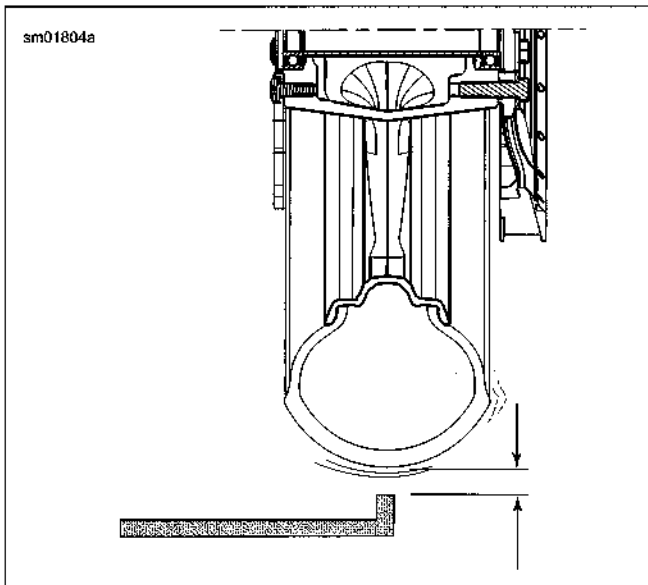

Figure 2-6. Tire Radial Runout
2. See Figure 2-6. Turn the wheel on the axle and measure tire radial runout at the tread centerline.